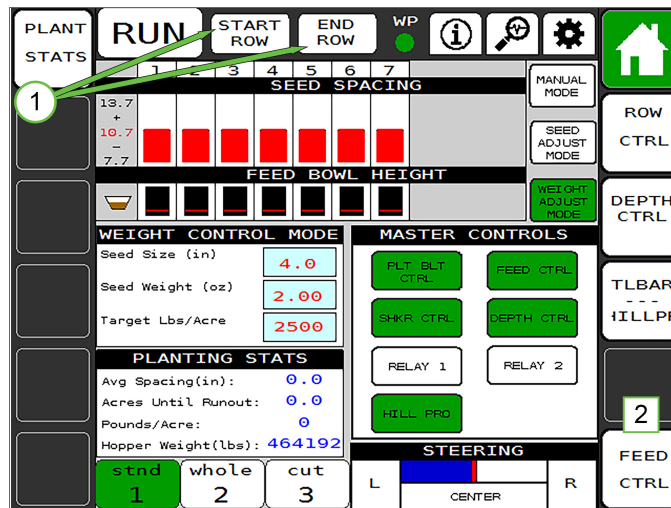

Figure 16
The Home screen for Spudnik bed belt planters includes (1) *START ROW* and *END ROW* keys at the top of the screen, and a (2) *FEED CTRL* key for accessing the Feed Control function screen on the bottom right. (see Figure 16)
Individual functions related to *Start of Row* and *End of Row* are listed in the (3) *Function* sections of the display. Corresponding start/stop times are displayed in the (4) *Start Time* and *Stop Time* sections to the right of the listed functions. Start and stop times are displayed in seconds. For each function, these start and stop times are relative to time zero, which is when the *Start Row* or *End Row* key is touched. (see Figure 16)